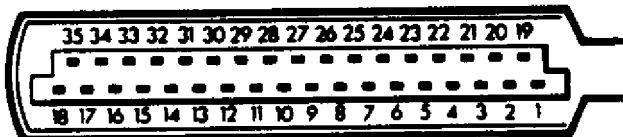
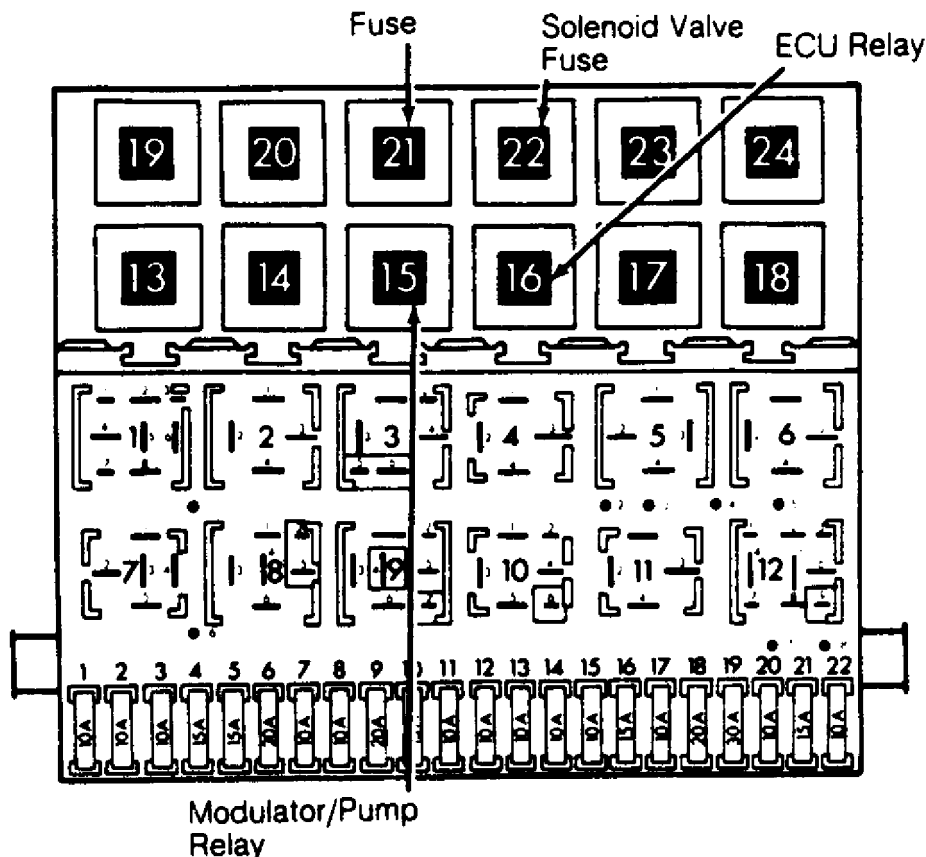

Fig. 2: Identifying ECU Connector Terminals
Fig. 3: Locating Relays
Turn ignition off. Unplug ECU connector. Turn ignition on. Using a voltmeter, check voltage between ECU connector terminals No. 1 and 2. See Fig. 2. If voltage is 10 volts or more, go to next test. If voltage is less than 10 volts, check battery, ground, ABS fuse, relay and wiring. Repair as necessary.
Connect a jumper wire between ECU connector terminals No. 2 and 8. See Fig. 2. Turn ignition on. Using a voltmeter, check voltage between ECU connector terminals No. 1 and 3. If voltage is 10 volts or more, go to next test. If voltage is less than 10 volts, check ABS
1) Turn ignition off. Unplug hydraulic modulator/pump connector. Depress brake pedal 25 times. Turn ignition on. Using a voltmeter, measure voltage between ECU connector terminals No. 1 and 32. See Fig. 2. If voltage is 10 volts or more, go to RIGHT REAR WHEEL SPEED SENSOR VOLTAGE TEST under SYSTEM TESTING.
2) If voltage is less than 10 volts, check hydraulic modulator/pump fuse. If fuse is okay, check wiring between ECU connector terminal No. 32 and hydraulic modulator/pump connector terminal No. 1 (large gauge Red/Black wire). See Figs. 2 and 4. If wiring is not okay, repair wiring, and retest. If wiring is okay, replace relay, and retest.
Connect an AC voltmeter between ECU connector terminals No. 4 and 22. See Fig. 2. Rotate right rear wheel at one revolution per second. Measure voltage with wheel rotating. If voltage is 0.075 volt or more, go to next test. If voltage is less than 0.075 volt, check wheel speed sensor and/or toothed ring for damage, wear and proper installation. If damage or wear is found, replace faulty component and retest. If components are not properly installed, reposition and retest. If components are okay, replace wheel speed sensor and retest.
Connect an AC voltmeter between ECU connector terminals No. 6 and 24. See Fig. 2. Rotate left rear wheel at one revolution per second. Measure voltage with wheel rotating. If voltage is 0.075 volt or more, go to next test. If voltage is less than 0.075 volt, check wheel speed sensor and/or toothed ring for damage, wear and proper installation. If damage or wear is found, replace faulty component and retest. If components are not properly installed, reposition and retest. If components are okay, replace wheel speed sensor and retest.
Connect an AC voltmeter between ECU connector terminals No. 7 and 25. See Fig. 2. Rotate right front wheel at one revolution per second. Measure voltage with wheel rotating. If voltage is 0.075 volt or more, go to next test. If voltage is less than 0.075 volt, check wheel speed sensor and/or toothed ring for damage, wear and improper installation. If damage or wear is found, replace faulty component, and retest. If components are improperly installed, reposition component, and retest. If components are okay, replace wheel speed
Connect an AC voltmeter between ECU connector terminals No. 5 and 23. See Fig. 2. Rotate left front wheel at one revolution per second. Measure voltage with wheel rotating. If voltage is 0.075 volt or more, go to next test. If voltage is less than 0.075 volt, check wheel speed sensor and/or toothed ring for damage, wear and proper installation. If damage or wear is found, replace faulty component and retest. If components are not properly installed, reposition and retest. If components are okay, replace wheel speed sensor and retest.
Turn ignition off. Using an ohmmeter, check for continuity between ECU connector terminals No. 1 and 3, and between terminals No. 1 and 20. See Fig. 2. If there is continuity at both test points, go to next test. If there is no continuity at either or both test points, check wiring. If wiring is faulty, repair and retest. If wiring is okay, replace relay and retest.
1) Turn ignition off. Remove jumper wire from previous test. Using an ohmmeter, check for continuity between ECU connector terminals No. 1 and 11. See Fig. 2. If there is continuity, go to step 3).
3) Reconnect jumper wire between ECU connector terminals No. 1 and 11. Check for continuity between ECU connector terminal No. 11 and valve block connector terminal No. 1 (Brown wire). See Figs. 2 and 4. If there is no continuity, repair wiring and retest.
connector terminals No. 9 and 10. See Fig. 2. If there is continuity, switch is okay. If continuity does not exist, check wiring. If wiring is okay, replace switch, and retest.
Turn ignition off. Using an ohmmeter, measure resistance between ECU connector terminals No. 4 and 22. See Fig. 2. If resistance is 800-1400 ohms, go to next test. If resistance is not as specified, check resistance at right rear wheel speed sensor. If resistance is correct, repair wiring and retest. If resistance is not correct, replace wheel speed sensor and retest.
Using an ohmmeter, measure resistance between ECU connector terminals No. 6 and 24. See Fig. 2. If resistance is 800-1400 ohms, go to next test. If resistance is not as specified, check resistance at left rear wheel speed sensor. If resistance is correct, repair wiring and retest. If resistance is not correct, replace wheel speed sensor, and retest.
Using an ohmmeter, measure resistance between ECU connector terminals No. 7 and 25. See Fig. 2. If resistance is 800-1400 ohms, go to next test. If resistance is not as specified, check resistance at right front wheel speed sensor. If resistance is correct, repair wiring and retest. If resistance is not correct, replace wheel speed sensor and retest.
Using an ohmmeter, measure resistance between ECU connector terminals No. 5 and 23. See Fig. 2. If resistance is 800-1400 ohms, go to next test. If resistance is not as specified, check resistance at left front wheel speed sensor. If resistance is correct, repair wiring, and retest. If resistance is not correct, replace wheel speed sensor, and retest.
Using an ohmmeter, measure resistance between ECU connector terminals No. 1 and 4. See Fig. 2. If resistance is 20,000 ohms or more, go to next test. If resistance is less than 20,000 ohms, check shielding wire for damage. Replace harness if damage is found and retest.
Using an ohmmeter, measure resistance between ECU connector terminals No. 1 and 6. See Fig. 2. If resistance is 20,000 ohms or more, go to next test. If resistance is less than 20,000 ohms, check shielding wire for damage. Replace harness if damage is found and retest.
terminals No. 1 and 7. See Fig. 2. If resistance is 20,000 ohms or more, go to next test. If resistance is less than 20,000 ohms, check shielding wire for damage. Replace harness if damaged, and retest.
Using an ohmmeter, measure resistance between ECU connector terminals No. 1 and 5. See Fig. 2. If resistance is 20,000 ohms or more, go to next test. If resistance is less than 20,000 ohms, check shielding wire for damage. Replace harness if damaged, and retest.
Using an ohmmeter, measure resistance between ECU connector terminals No. 1 and 8. See Fig. 2. If resistance is 50-100 ohms, go to next test. If resistance is not as specified, check wiring. If wiring is faulty, repair and retest. If wiring is okay, replace relay and retest. See Fig. 3.
Using an ohmmeter, measure resistance between ECU connector terminals No. 11 and 17. See Fig. 2. If resistance is 5-7 ohms, go to next test. If resistance is not 5-7 ohms, measure between hydraulic modulator block terminals No. 1 (Brown wire) and No. 5 (Gray wire). See Fig. 4. If resistance is 5-7 ohms, check wiring between hydraulic modulator and ECU for open circuit. If resistance is not 5-7 ohms, replace hydraulic modulator.
Using an ohmmeter, measure resistance between ECU connector terminals No. 11 and 15. See Fig. 2. If resistance is 5-7 ohms, go to next test. If resistance is not 5-7 ohms, measure between hydraulic modulator terminals No. 1 (Brown wire) and No. 2 (Yellow wire). See Fig. 4. If resistance is 5-7 ohms, check wiring between hydraulic modulator and ECU for open circuit. If resistance is not 5-7 ohms, replace hydraulic modulator.
Using an ohmmeter, measure resistance between ECU connector terminals No. 11 and 35. See Fig. 2. If resistance is 5-7 ohms, go to next test. If resistance is not 5-7 ohms, measure between hydraulic modulator terminals No. 1 (Brown wire) and No. 7 (Blue or Black/Green wire). See Fig. 4. If resistance is 5-7 ohms, check wiring between valve block and ECU for open circuit. If resistance is not 5-7 ohms, replace hydraulic modulator.
Using an ohmmeter, measure resistance between ECU connector terminals No. 11 and 33. See Fig. 2. If resistance is 3-5 ohms, go to next test. If resistance is not 3-5 ohms, measure between valve block terminals No. 1 (Brown wire) and No. 4 (White wire). See Fig. 4. If resistance is 3-5 ohms, check wiring between hydraulic modulator and ECU for open circuit. If resistance is not 3-5 ohms, replace hydraulic modulator.
Using an ohmmeter, measure resistance between ECU connector terminals No. 11 and 34. See Fig. 2. If resistance is 3-5 ohms, go to next test. If resistance is not 3-5 ohms, measure between hydraulic modulator terminals No. 1 (Brown wire) and No. 3 (Green wire). See Fig. 4. If resistance is 3-5 ohms, check wiring between hydraulic modulator and ECU for open circuit. If resistance is not 3-5 ohms, replace hydraulic modulator.